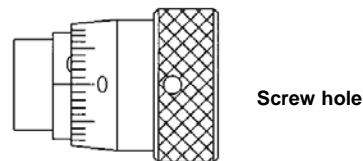

Figure 5-8 The reading is "0"
3. Make sure that the reading on the micrometer is 0. Refer to Figure 5-8.
2. Turn the eyepiece sleeve until the two filar lines are very sharp. Refer to Figure 5-8.